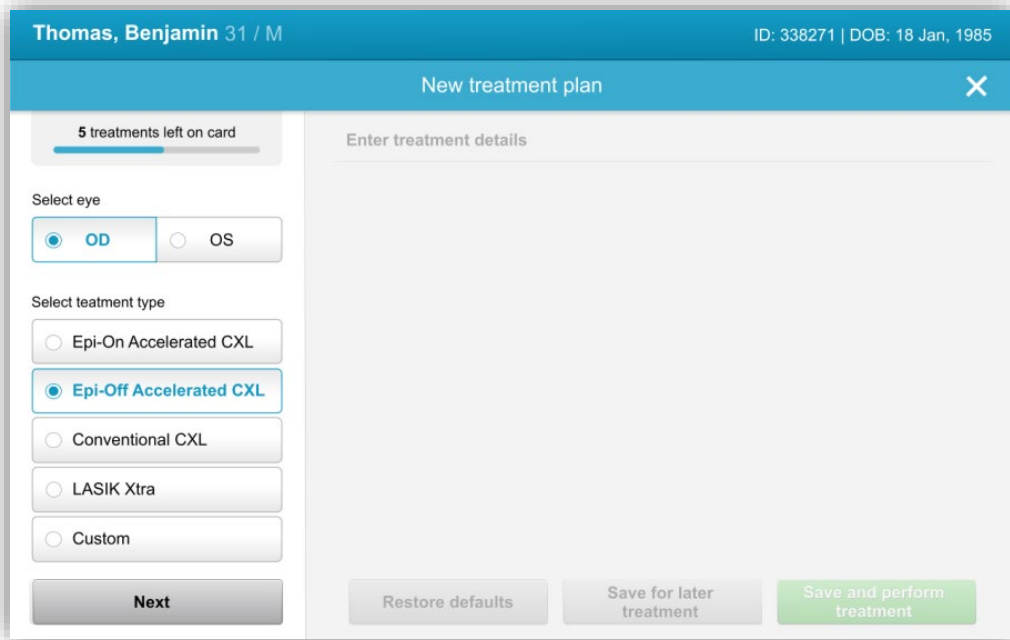

Figure 3-6. Select Treatment Type
- The system is pre-programmed with five preset treatment plans as shown in Figure 3-6: